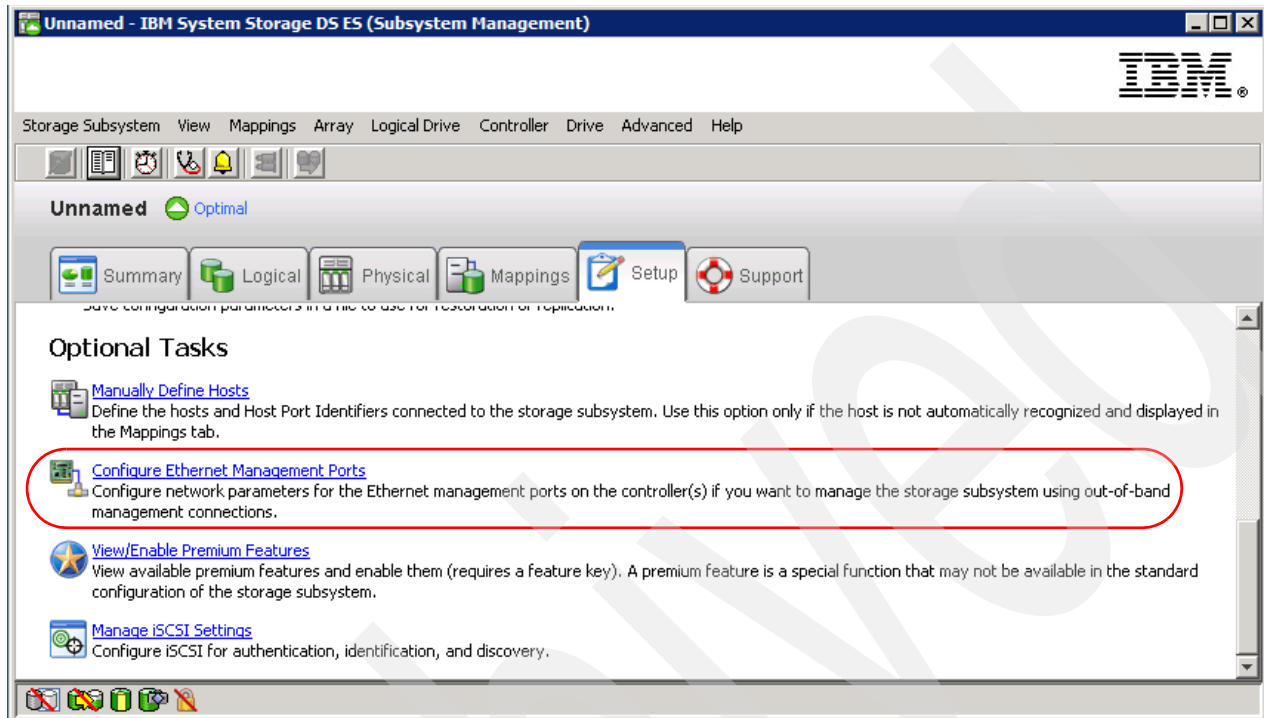

Figure 4-28 Changing the network configuration in the Subsystem Management window
- f. Now we are connected to the DS5000 storage subsystem, but with the default IP addresses. We need to change the address to your specific ones. In the Subsystem Management window, select the **Setup** tab, and then scroll down to select **Configure Ethernet Management Ports**, as shown in Figure 4-28.